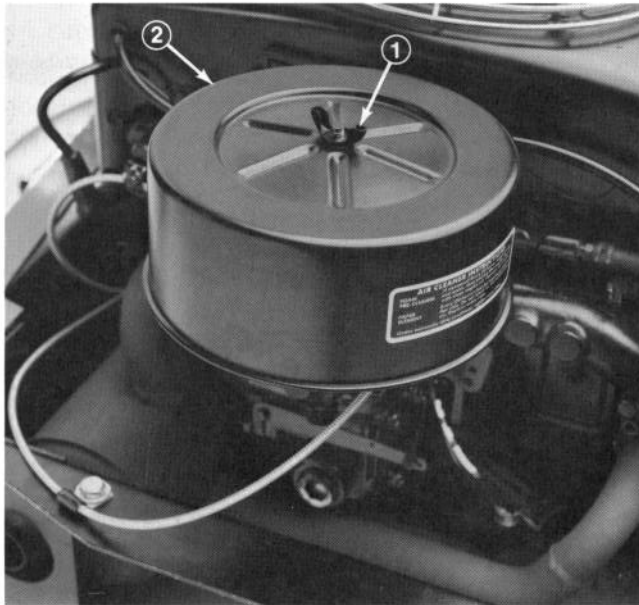

Figure 17
1. Remove wing nut and cover (Fig. 17).